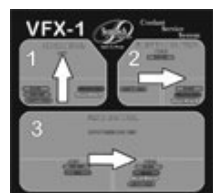

Figure 3
- 6) Return AIR CONTROL valve (#1) to neutral position. (Fig 3)